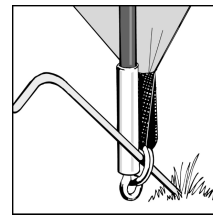

Figure 2.
2. Peg the corners of the tent through the metal rings using pin-pegs. It is important to drive the peg into the ground at a 45 degree angle to obtain the best grip. **(See Figure 2)**.